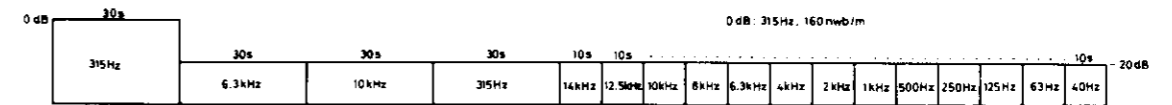

Fig. 9-1 STD-331B test tape
- Playback system adjustments : STD-331B (see Fig. 9-1)